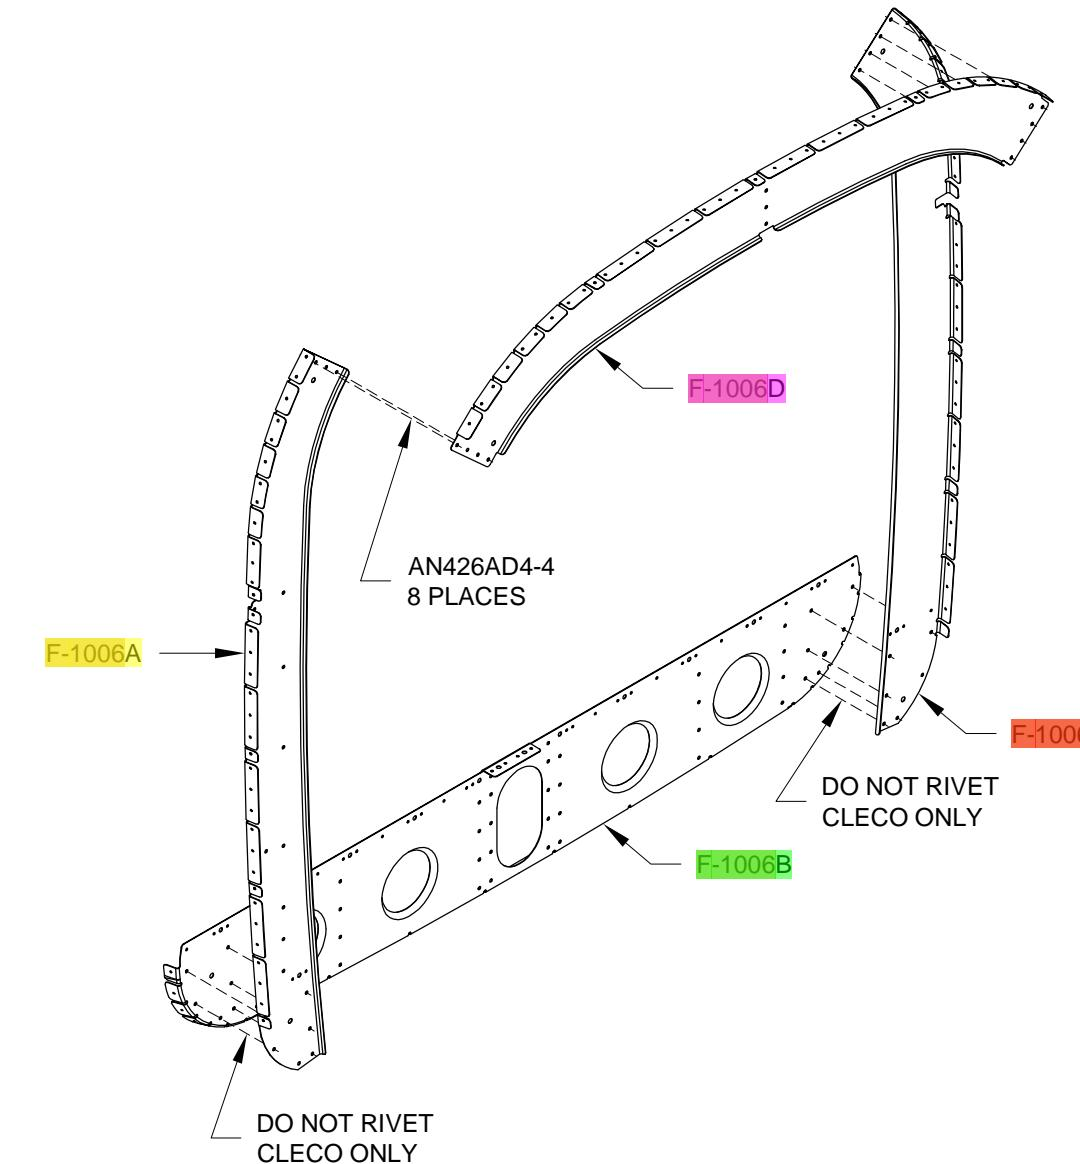

FIGURE 5: RIVETING THE F-1006 BULKHEAD
Step 7: Rivet the F-1006D Bulkhead to the F-1006A & C Bulkheads using the rivets called out in Figure 5.